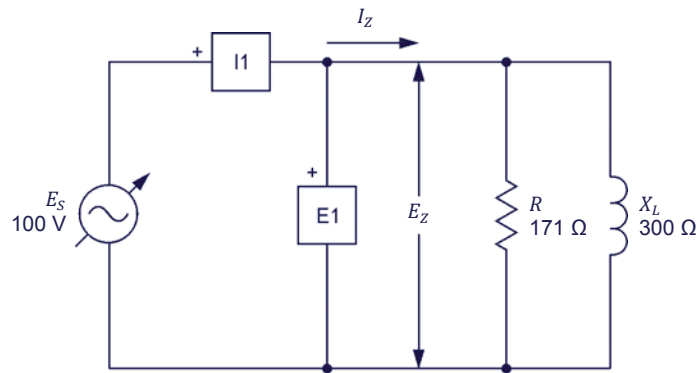

Figure 2-21. Parallel ac circuit containing a resistor and an inductor.
46. Set up the circuit shown in Figure 2-21.